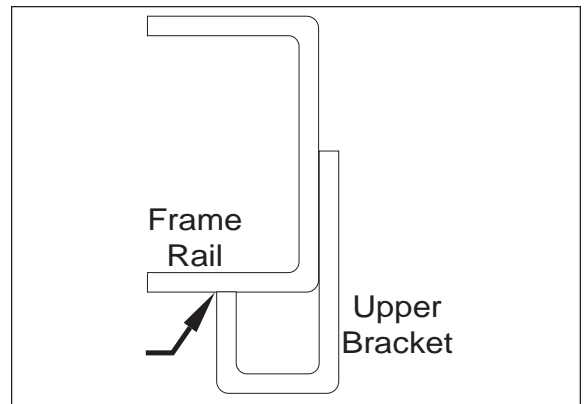

Figure 8
3. Align the upper bracket so that the short leg of the upper bracket touches the bottom of the frame rail (Figure 8).